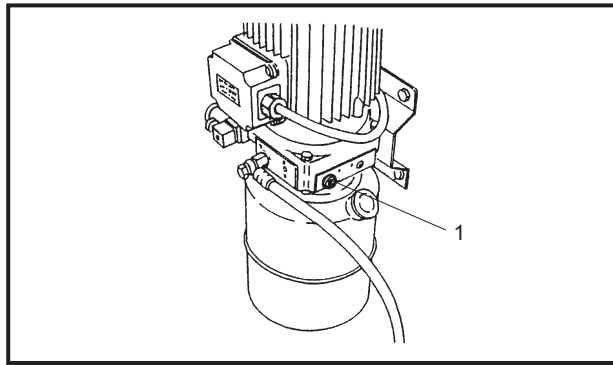

Fig.23 Relief valve
- In the case of excess weight on the lift the relief valve on the hydraulic power unit will open (Pos.1, fig.23).